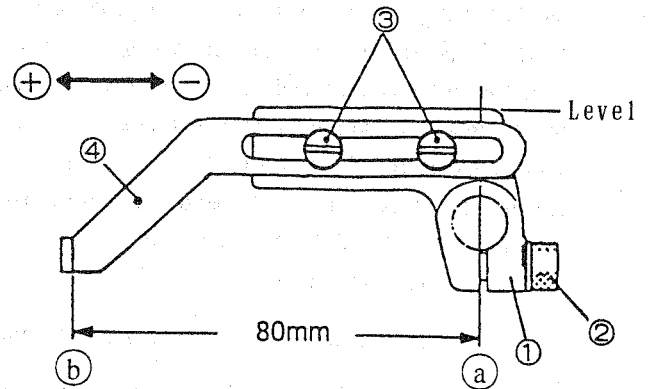

Fig.25
(1) Needle thread take-up (Fig. 25)